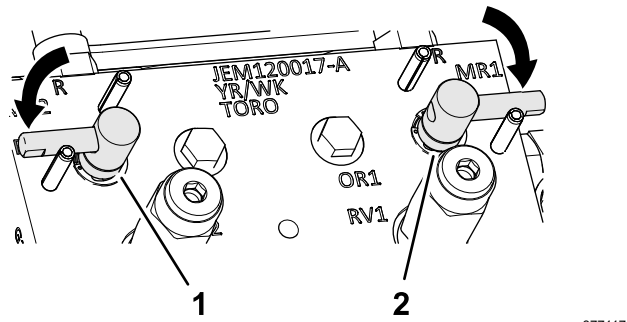

Figure 118
3. Move the backlap levers to the F (mow) position (Figure 118).